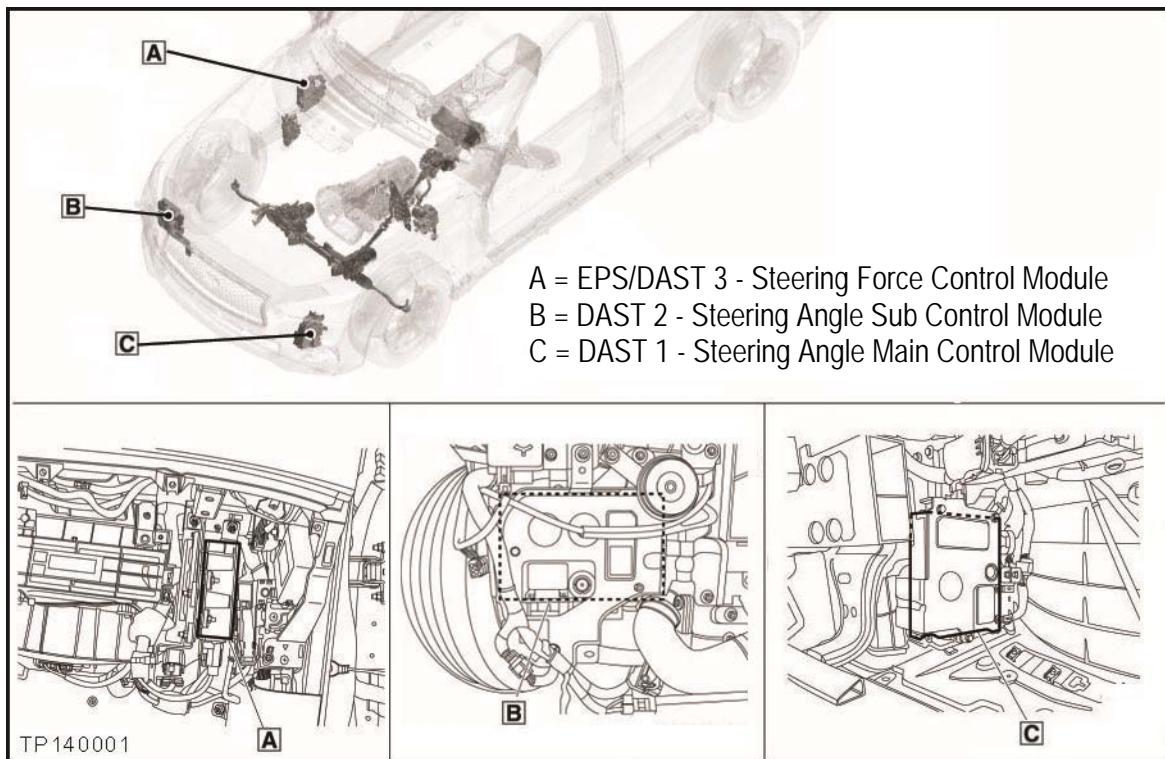

Figure R1
The Claims Information and Figure R1 in this bulletin have been amended. No other changes have been made.
1. Replace all three DAST Control Modules (see Figure R1):